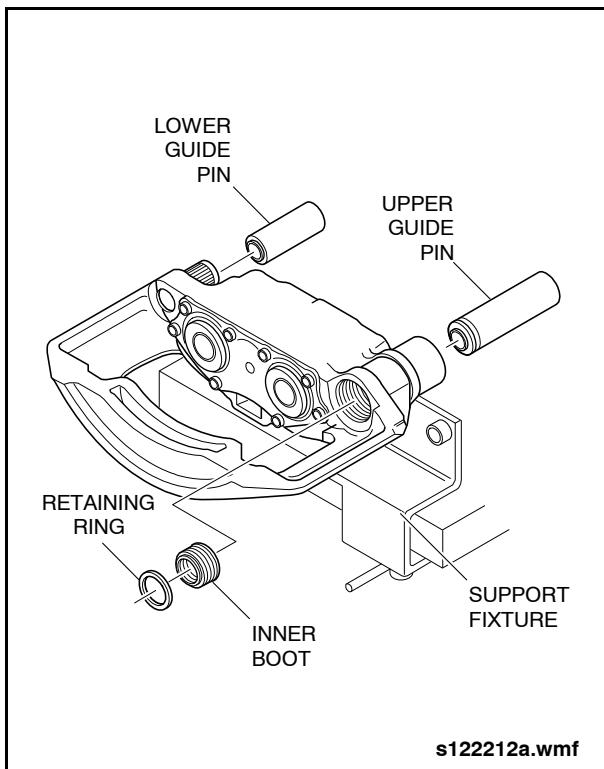

Fig. 1-57: Brake Caliper Guide Pin Removal
8. Remove the retaining ring from the rubber boot on the upper guide pin. See "Fig. 1-57: Brake Caliper Guide Pin Removal" on page 66.